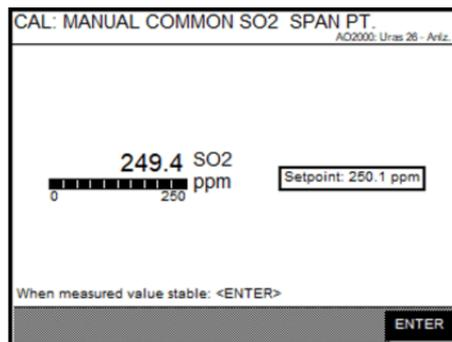

Figure 39: Stable end point
2. Confirm your test gas concentration and wait until the reading is stable as shown in Figure 39. The procedure for the end point is the same.